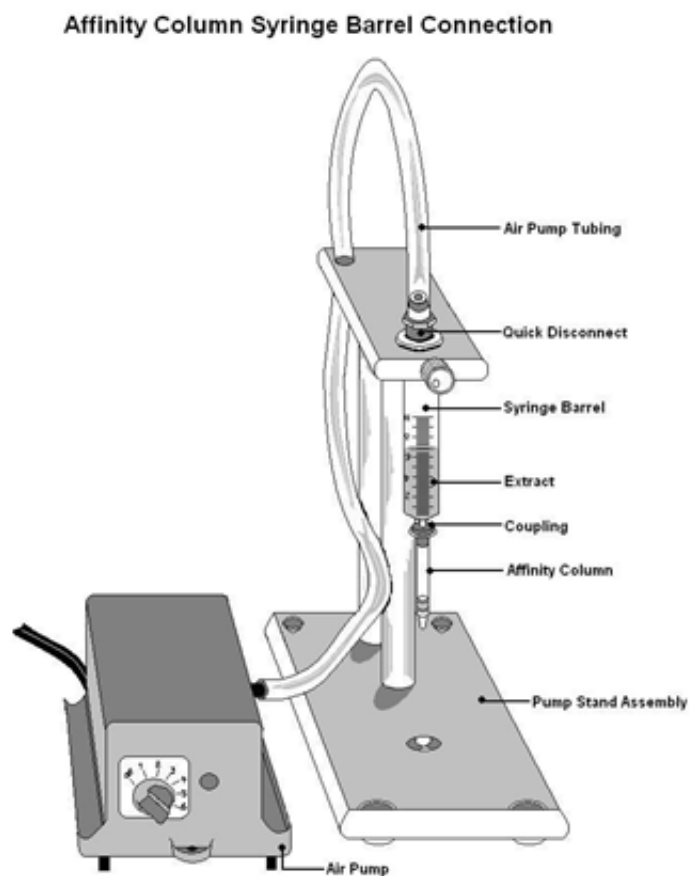

Figure 1
5. For positive pressure, insert quick disconnect on end of the air pump tubing into glass syringe barrel reservoir. See Figure 1 at right.